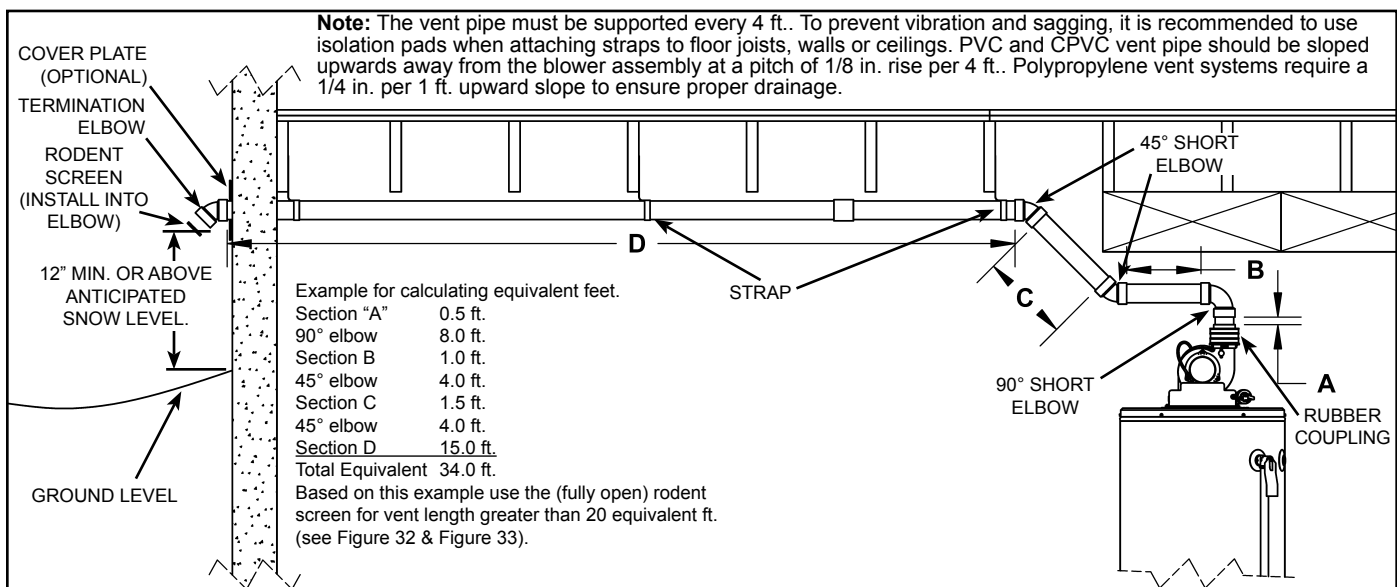
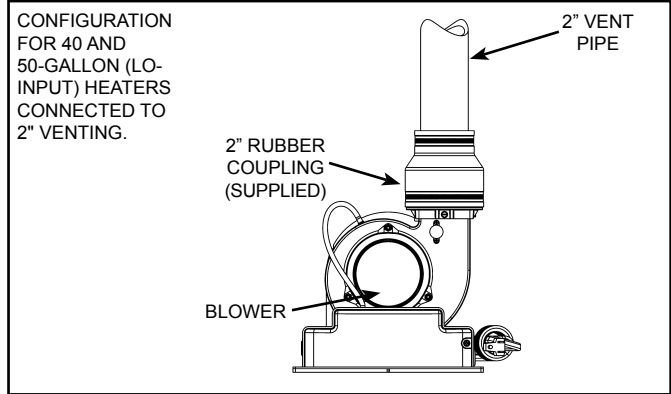
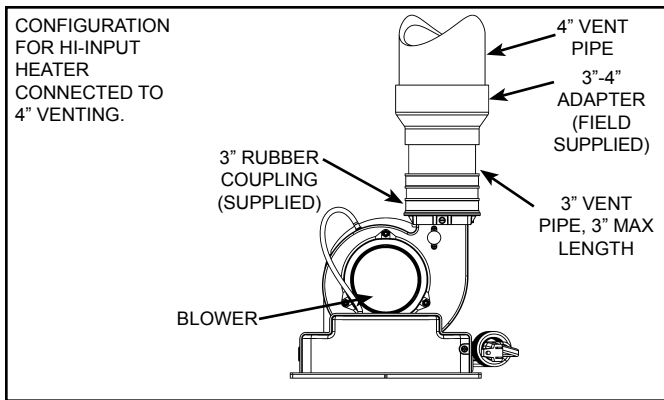

Figure 34.
Figure 38.
Figure 42.
This heater is designed to exhaust the products of combustion (flue gases) to the outdoors using a sealed piping system. Table 2 lists the allowable vent materials and sizing information. Figure 34 shows the general venting layout while Figure 38 through Figure 42 show various end termination details and clearances. Connection of the venting piping to the blower is shown in Figure 38 through Figure 42.
- Refer to Figure 34 and Table 2 for vent pipe materials and sizing. Examples of the vent terminations are shown in Figure 35 & Figure 36. If the installation requires a vent riser, suitable drainage must be provided to ensure condensation does not accumulate. Termination through a roof is shown Figure 37.
Installed in the vent termination elbow, the vent screen is required to keep foreign objects, rodents and small birds from entering the venting system. These screens have been sized to ensure maximum energy efficiency of the vent system based on the "equivalent length" of the vent piping. **CHOOSE ONLY the ONE SCREEN THAT MATCHES YOUR VENTING CONFIGURATION** (see Figure 32 & Figure 33). How to determine the "equivalent length" is shown in Figure 34 and in Table 2.
- Calculate “Equivalent Vent Length” before starting. Do not exceed the values shown in Table 2. An example of how this length is determined is shown in Figure 34. The value from your calculations should also be used to determine which rodent screen to install into the vent termination elbow.
1. The plastic vent piping connects into the rubber coupling located on the top of the blower assembly. This coupling includes gear clamps to connect the venting to the blower. These connections must be properly seated and tightened to prevent the leakage of flue gases into the area. See Figure 38 through Figure 42.